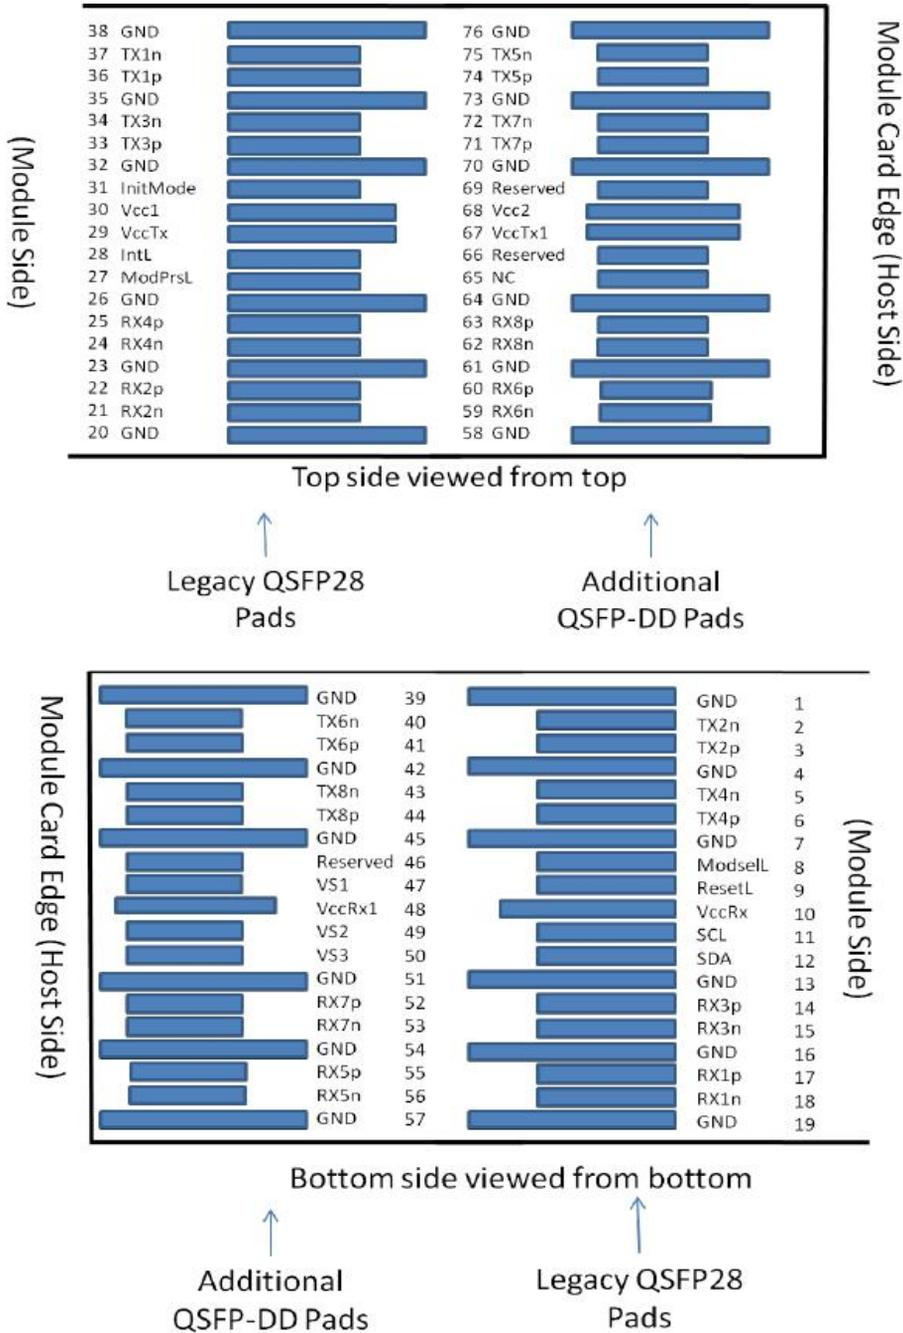

Figure 2. MSA Compliant Connector
The electrical pinout of the QSFP-DD module is shown in Figure 2 below.
4. Plug Sequence specifies the mating sequence of the host connector and module. The sequence is 1A, 2A, 3A, 1B, 2B, 3B. (see Figure 2 for pad locations) Contact sequence A will make, then break contact with additional QSFP-DD pads. Sequence 1A, 1B will then occur simultaneously, followed by 2A, 2B, followed by 3A, 3B.